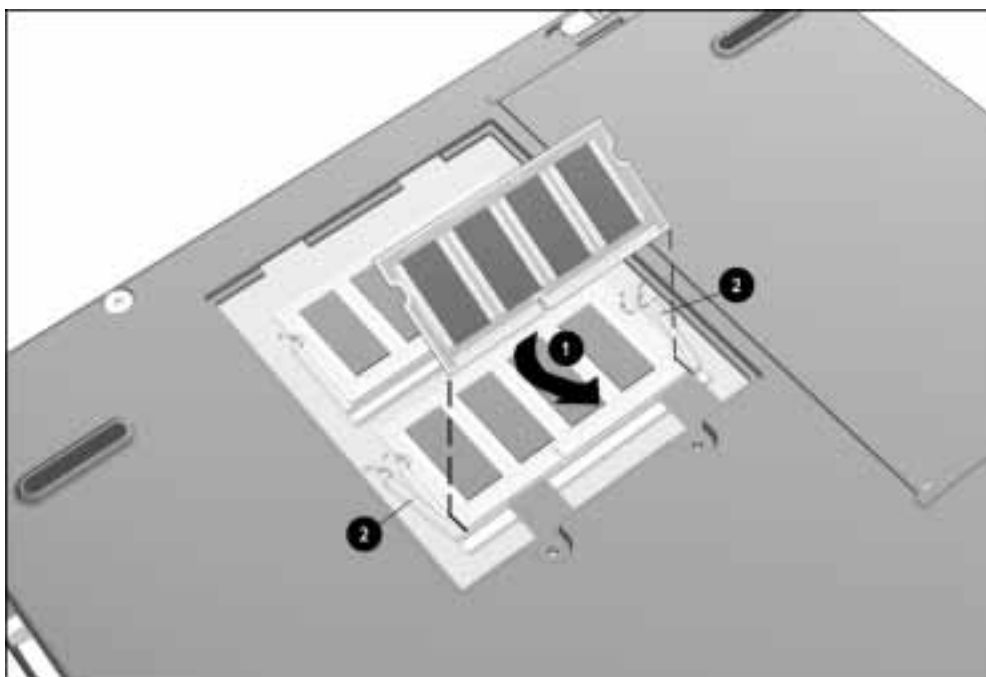

Figure 5-18. *Installing a Memory Expansion Board*
1. Insert the memory expansion board into an empty memory expansion slot at a 45-degree angle ❶ (Figure 5-18).
3. Push the memory expansion board down until the board is seated in the retention clips ❷.